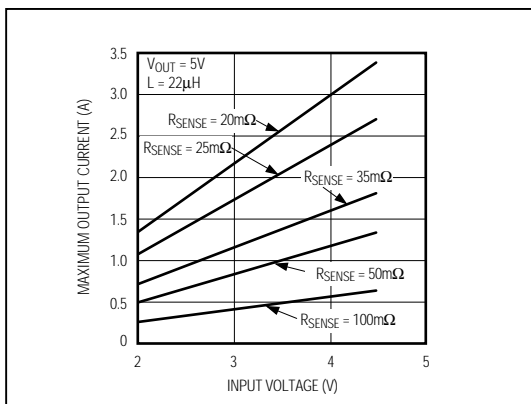

Figure 4a. Maximum Output Current vs. Input Voltage ( $V_{OUT} = 5V$ )
Use the theoretical output current curves shown in Figures 4a–4d to select RSENSE. They were derived using the minimum (worst-case) current-limit comparator threshold value over the extended temperature range (-40°C to +85°C). No tolerance was included for RSENSE. The voltage drop across the diode was assumed to be 0.5V, and the drop across the power switch rDS(ON) and coil resistance was assumed to be 0.3V.